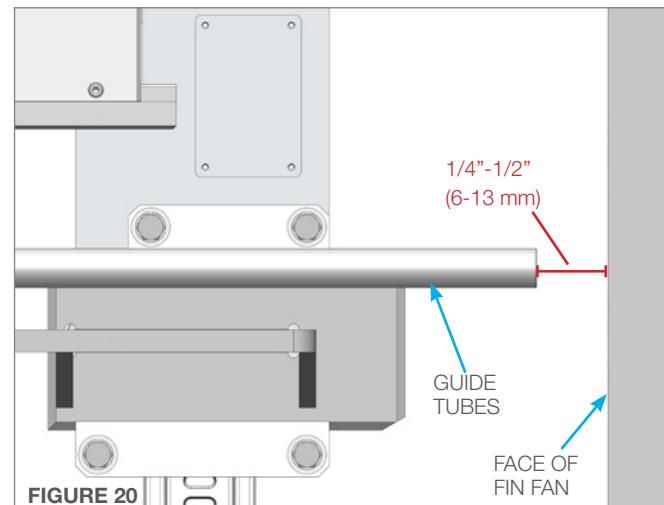

FIGURE 20
19. The Guide Tubes should be set 1/4"-1/2" (6 - 13 mm) away from the face of the tube bundle. (**Figure 20**)